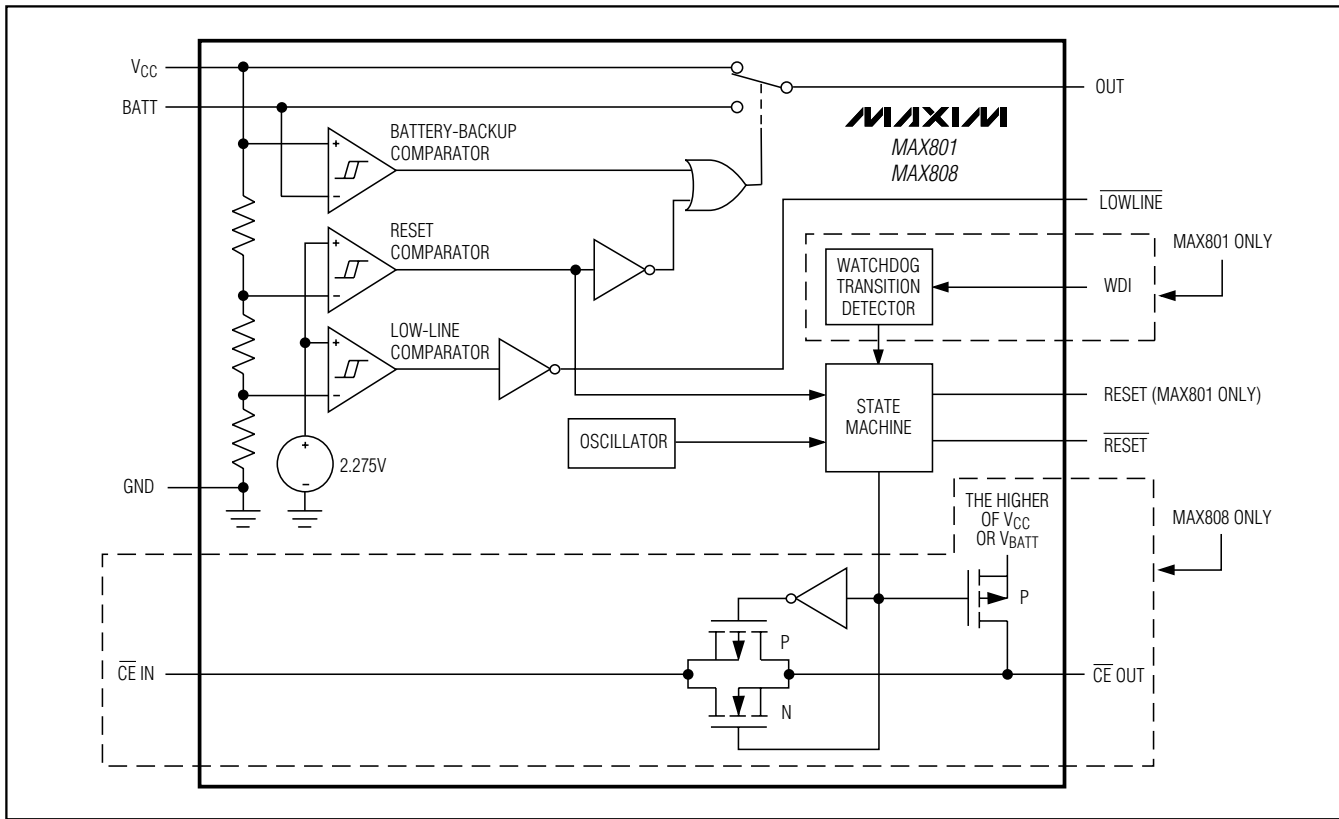

Figure 1. Functional Diagram
The MAX801/MAX808 microprocessor (μ P) supervisory circuits provide power-supply monitoring and backup-battery switchover in μ P systems. The MAX801 also provides program-execution watchdog functions (Figure 1). Use of BiCMOS technology results in an improved, 1.5% reset-threshold precision while keeping supply currents typically at 68 μ A (48 μ A for the MAX808). The MAX801/MAX808 are intended for battery-powered applications that require high reset-threshold precision, allowing a wide power-supply operating range while preventing the system from operating below its specified voltage range.
The MAX808 provides internal gating of chip-enable (CE) signals to prevent erroneous data from corrupting CMOS RAM in the event of a power failure. During normal operation, the CE gate is enabled and passes all CE transitions. When reset is asserted, this path becomes disabled, preventing erroneous data from corrupting the CMOS RAM. The MAX808 uses a series transmission gate from the chip-enable input ($\overline{\text{CE}} \text{ IN}$) to the chip-enable output ($\overline{\text{CE}} \text{ OUT}$) (Figure 1). The 8ns max chip-enable propagation from $\overline{\text{CE}} \text{ IN}$ to $\overline{\text{CE}} \text{ OUT}$ enables the MAX808 to be used with most μ Ps.